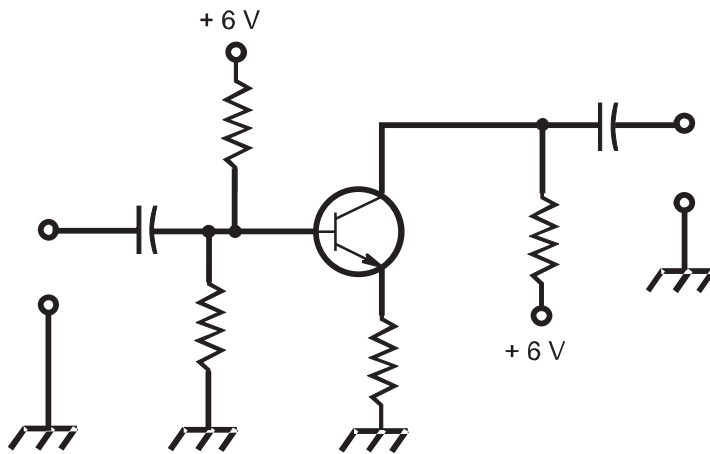

Fig. Test2-4. Illustration for Part Two Test Questions 33 through 37.
33. What type of circuit is shown in Fig. Test2-4? Assume the values of the resistors and capacitors are such that the circuit performs its intended function properly.
34. What will happen if the polarities of the voltages shown in Fig. Test2-4 are reversed, that is, changed to -6 V instead of $+6\text{ V}$? Assume no other changes are made.
35. In Fig. Test2-4, what type of component is represented by the circle with the lines and arrow inside?
36. What appears at, or should be connected to, the set of terminals on the right-hand side of the circuit shown in Fig. Test2-4?
37. What does the capacitor on the left-hand side of the diagram in Fig. Test2-4 do?